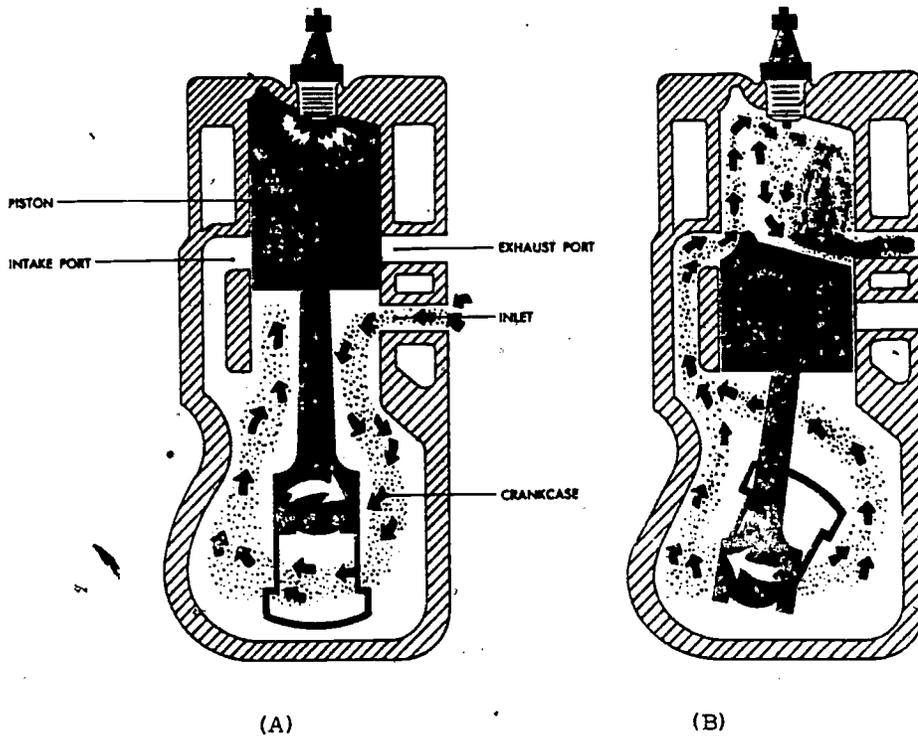

Fig 1-23. Events in a two-stroke-cycle.
The two-stroke-cycle engine may be used as either a spark-ignition or compression-ignition engine just as the four-stroke-cycle engine. The basic difference between this engine and the four-stroke-cycle is that all four events (intake, compression, power, and exhaust) must occur within two strokes of the piston instead of within four strokes. This means that every down-stroke is a power stroke and every up-stroke is a compression stroke. At some time during these two strokes we must get raw gases into the cylinder and burned gases out of the cylinder. Let's turn our attention to figure 1-23 and discover how this is accomplished. During the compression stroke (A), the gases are permitted to flow into the crankcase. The gases which are being compressed at this time ignite, driving the piston down on its power stroke. Near the end of the power stroke, the piston travels by two openings in the cylinder wall (B). One of these is the intake port and the other is the exhaust port. As the piston uncovers these ports, the burned gases are exhausted into the atmosphere, and the raw gases are permitted to leave the crankcase via the cylinder. Therefore, intake and exhaust occur at the same time. The piston now begins to travel upward inside the cylinder, closing both the intake and exhaust ports in the cylinder wall, and the fresh gases inside the cylinder are compressed to begin a new cycle. Therefore, two strokes of the piston or one complete revolution of the crankshaft completes the cycle of operation in the two-stroke-cycle engine. Although this is the most common method, there are two-stroke-cycle engines which use poppet valves and a super-charger to induct the fuel/air mixture.